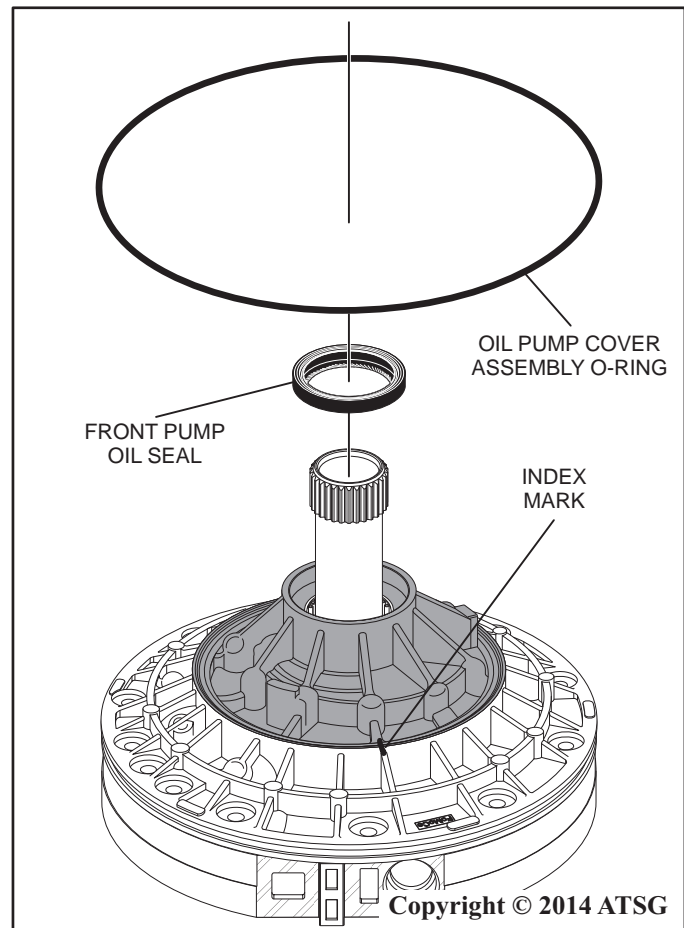

Figure 68
18. Using ST 307-556 fluid pump seal installer or similar pump seal installation tool, install a new pump seal into the pump as shown in Figure 68.
20. Install a new oil pump cover assembly o-ring as shown in Figure 68. Coat the o-ring with a small amount of ATF or Trans-Jel®.